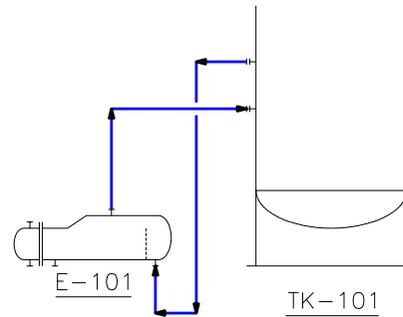

Figure 2-41 Line connecting the vessel and the bottom nozzle of the heat exchanger
- Invoke the **Primary Line Segment** tool from the **Lines** tab of the **TOOL PALETTES** and connect the vessel to the nozzle located at the bottom of the heat exchanger. The line created should be similar to the one shown in Figure 2-41.